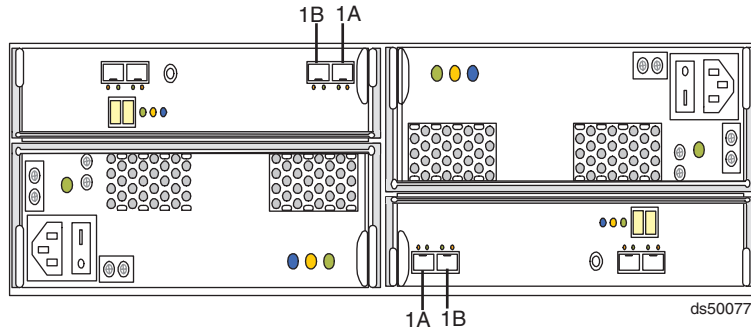

Figure 48. EXP5000 port labels
- The DS5100 or DS5300 controller drive port must always be connected to the EXP5000 port labeled 1B. Because the left and right EXP5000 ESMs (ESMs A and B) are inserted in the ESM bays in different orientations, you must look for the port labeled 1B before making the fibre channel connections. Figure 48 shows the port labels on the EXP5000.